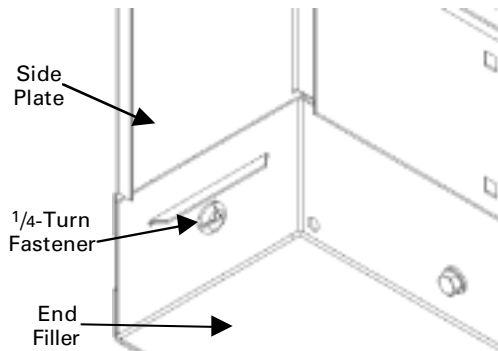

Figure 6. Fastening the end filler to the side plate.
**27–44-inch-wide panels.** Fasten the end filler plates to the side plates with the 1/4-turn fasteners shown in Figure 6. The end filler plate with labeling attached must be placed at the load end of the panel, opposite to the incoming power.